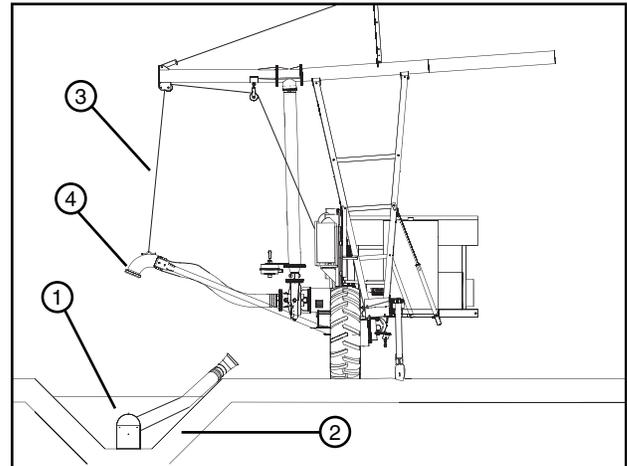

Figure 77-1 1. Suction Inlet 2. Ditch 3. Lift Cable 4. Elbow
1. Raise the suction inlet out of the ditch using the lift cable, high enough to clear obstructions, then disconnect the inlet tube at elbow as shown in Figure 77-1. To prevent damage during swing around move machine away from the ditch so that the wheels will not fall in the ditch.